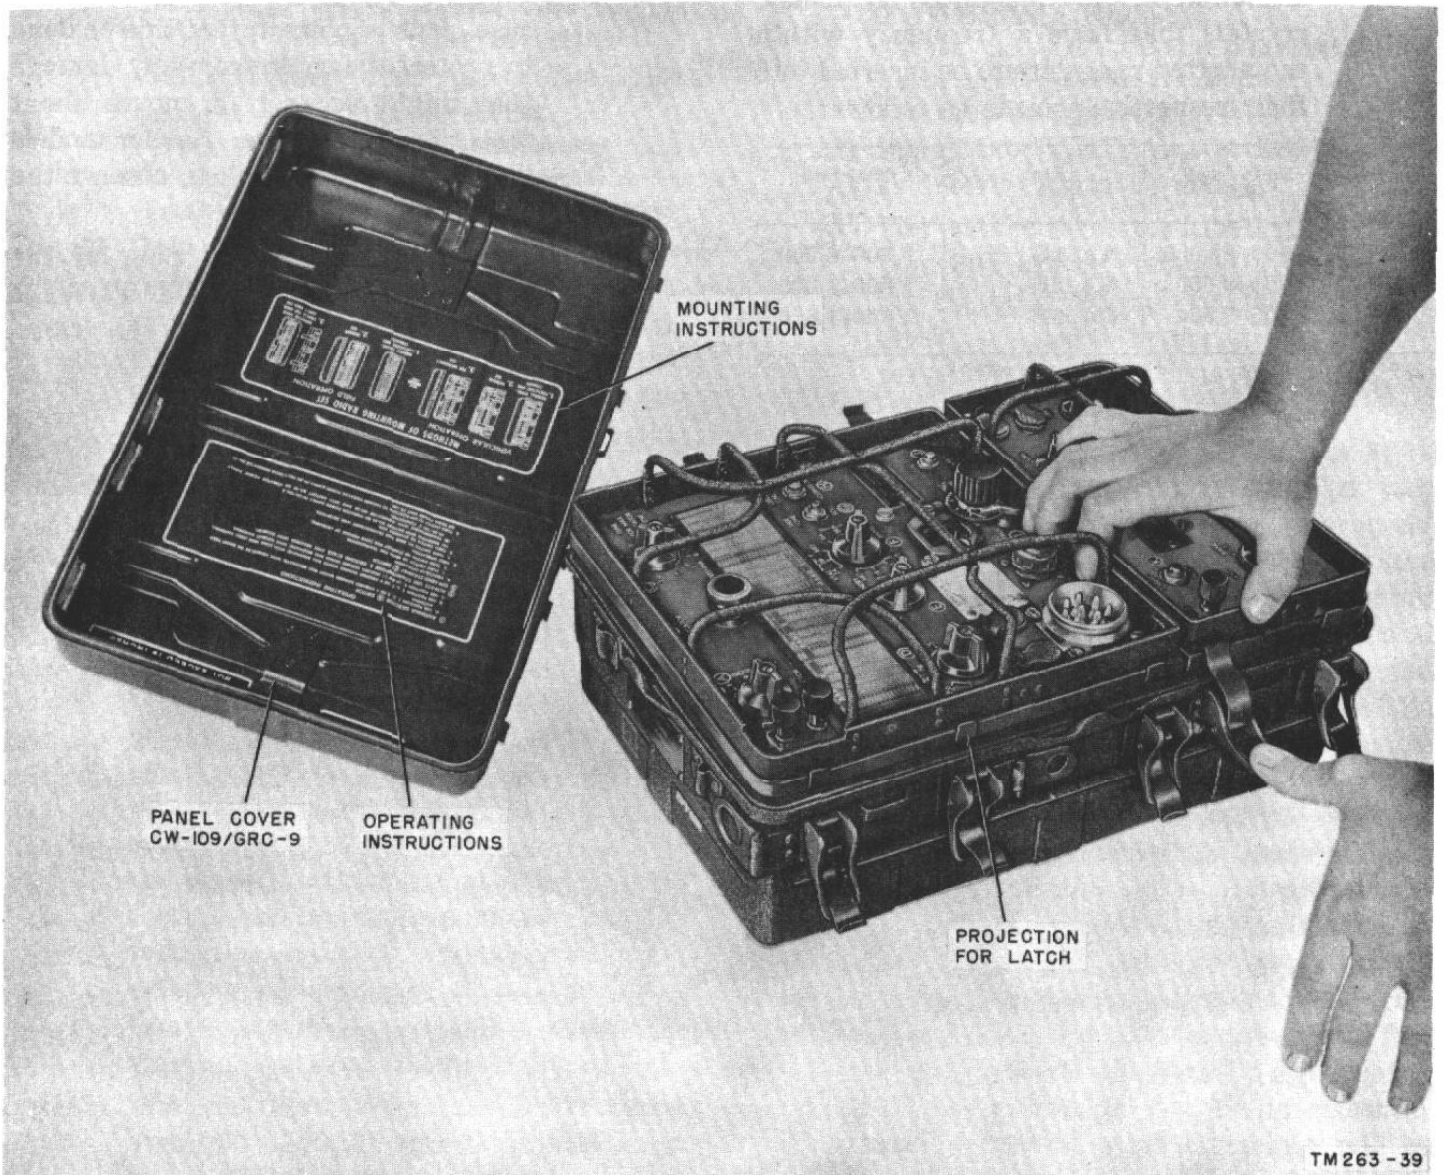

Figure 29. Resetting the latches on receiver-transmitter.
- (2) Reset the latches (fig. 29) on the small projections on the transmitter front panel. This prevents the possibility of the transmitter from falling out if the receiver-transmitter case is moved while standing in a vertical position.
- (3) Lift the receiver section partially out of the case, remove the plug of the receiver-transmitter interconnecting cable